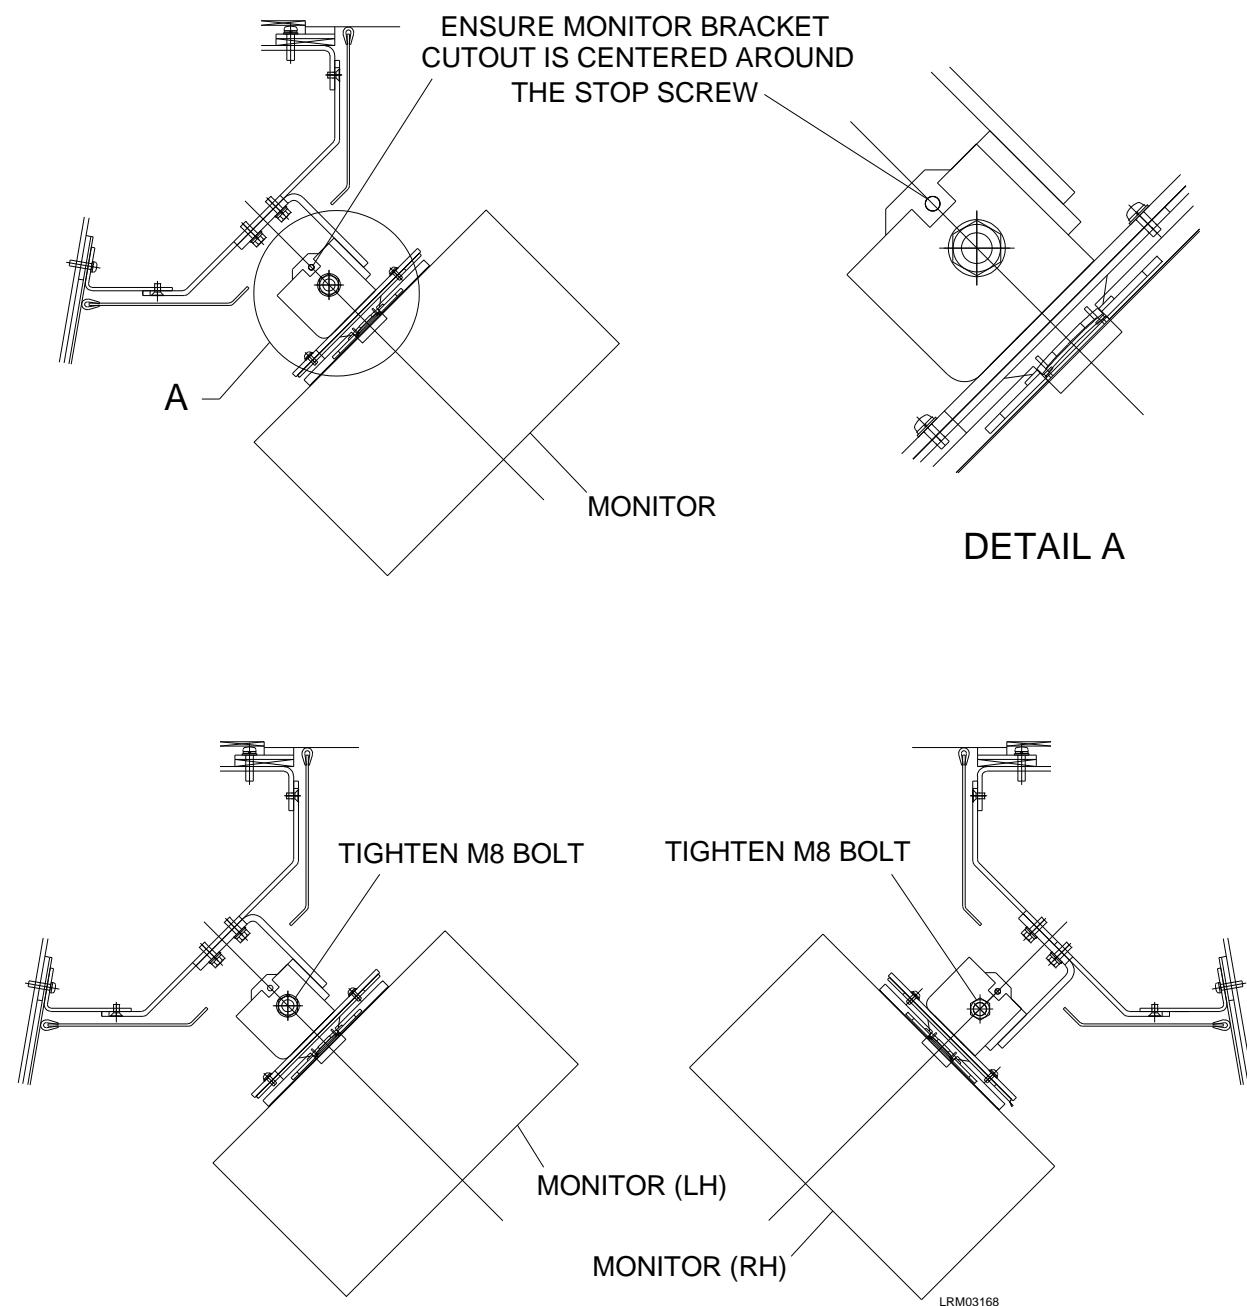

Figure 7-137: Adjustment of Rear View Monitor
2. Install the four M4 x 8 screws (7), M4 lock washers (8), and M4 plain washers (9) to secure the bracket assembly (3).
4. Carefully place the Rear View Monitor Assembly (1) onto the base plate (2) aligning the mounting holes.
5. Install the four M5 x 16 bolts (4), M5 lock washers (5), and M5 plain washers (6) to secure the Rear View Monitor Assembly (1).
6. Ensure that the Rear View Monitor is centered (not rotated one way or the other). The stop screw should be in the middle of the cutout on the mounting bracket. See Figure 7-137.